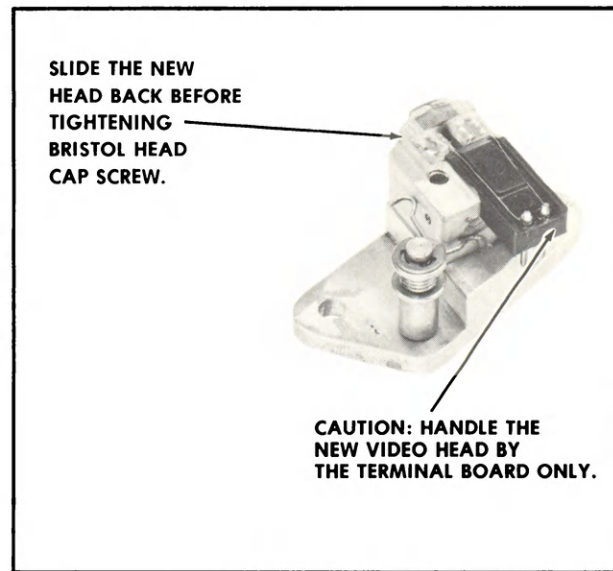

Figure 5-15. Bottom view of video head mounting plate assembly.
5. The video head is held to the mounting plate by a bristol head cap screw (See Figure 5-15). Remove this screw and the old head. Before mounting the new video head, make a note of the number marked on the head; it indicates gap depth. Refer to Step 10.
When mounting video head on mounting plate be sure spring ends are positioned as shown in Figure 5-15. Before tightening bristol screw, push head as far back as possible. Refer Figure 5-15.